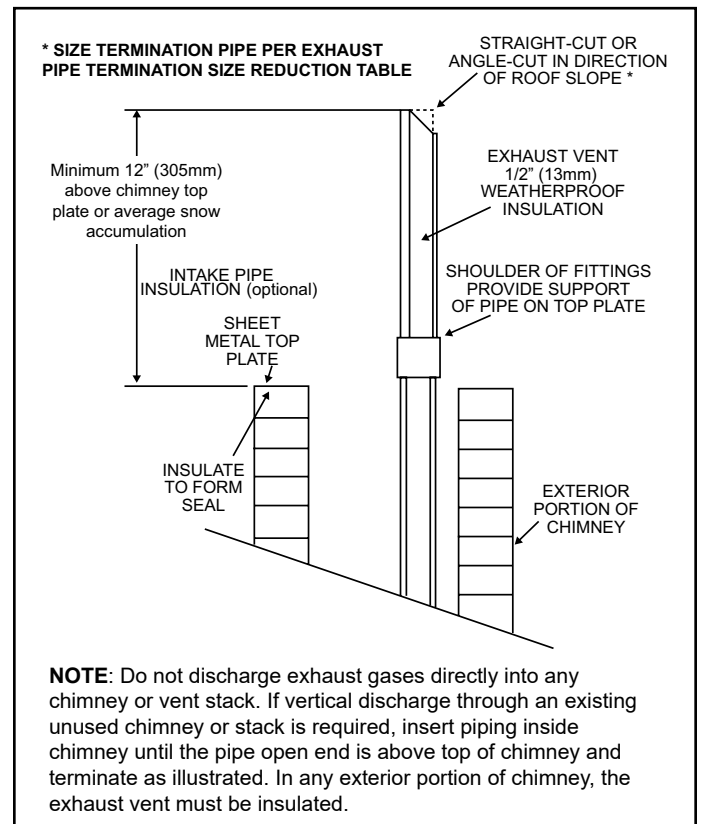

Figure 40. Non-Direct Vent Application Using Existing Chimney
2. On field supplied terminations for side wall exit, exhaust piping may extend a maximum of 12 inches (305 mm) for 2" PVC and 20" (508 mm) for 3" (76 mm) PVC beyond the outside wall. See Figure 40.